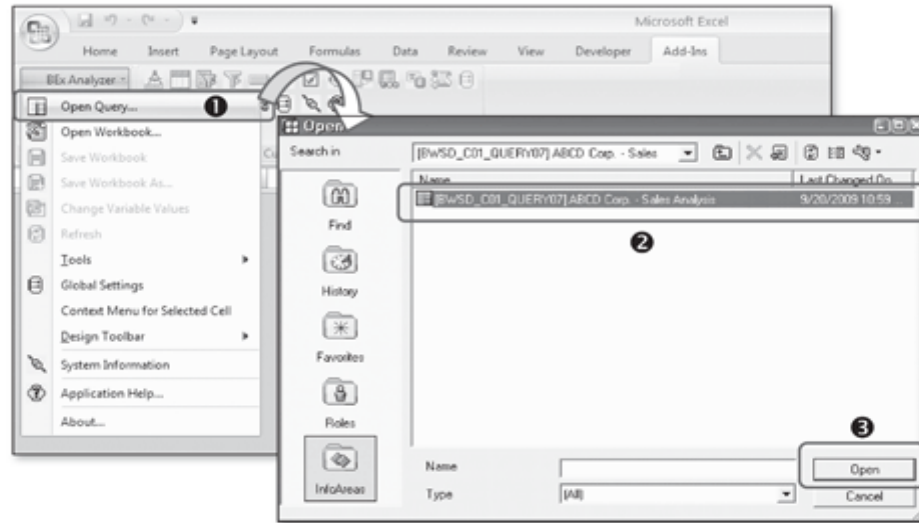

Figure 10.4 Open a Query in BEx analyzer
To execute an existing query from the connected SAP NetWeaver BW system, you have to first open the query (Figure 10.4).
Click on the BEX ANALYZER menu and select OPEN QUERY (❶ of Figure 10.4), which opens a pop-up screen. Navigate through the InfoAreas to locate the required query (❷), and click on Open (❸).